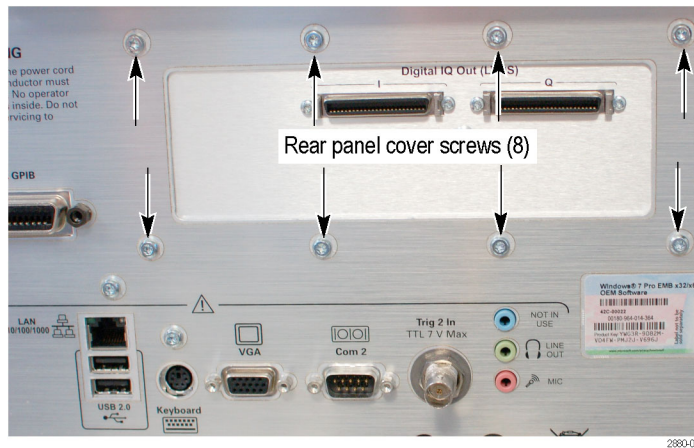

Figure 4: Installing the rear panel cover on the rear panel of the chassis
1. Install the rear panel cover with attached cabling on the rear panel using eight T15 screws (Tektronix part number 211-1050-XX). Torque these screws to 10.0 in/lb. (See Figure 4.)